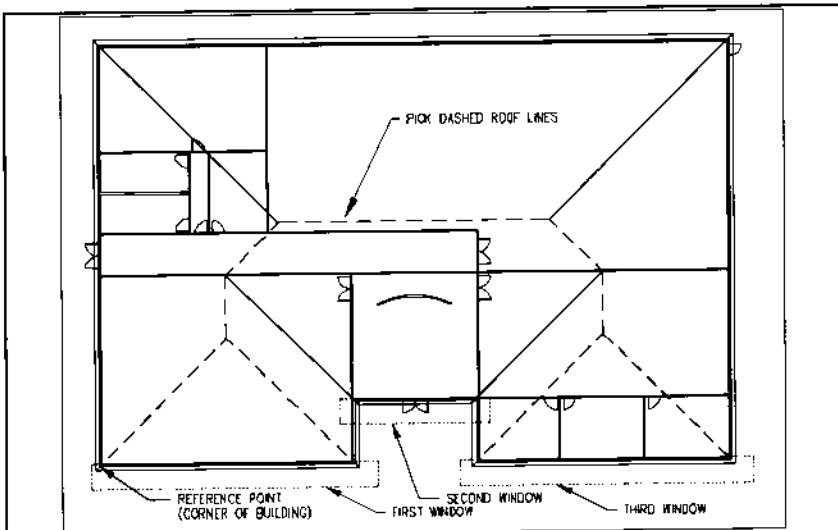

Figure 4.
4. Pick the roof lines shown dashed. Then select the three exterior front building walls using the window selection set method as shown in Figure 4.
- > Select objects: 1 selected, 1 found [**select one of the dashed roof lines shown on Figure 4**]
- > Select objects: W [**first window as shown in Figure 4**]
- > Pick reference point on the floor plan: ENDP of [select front left intersection of building as shown in Figure 4]